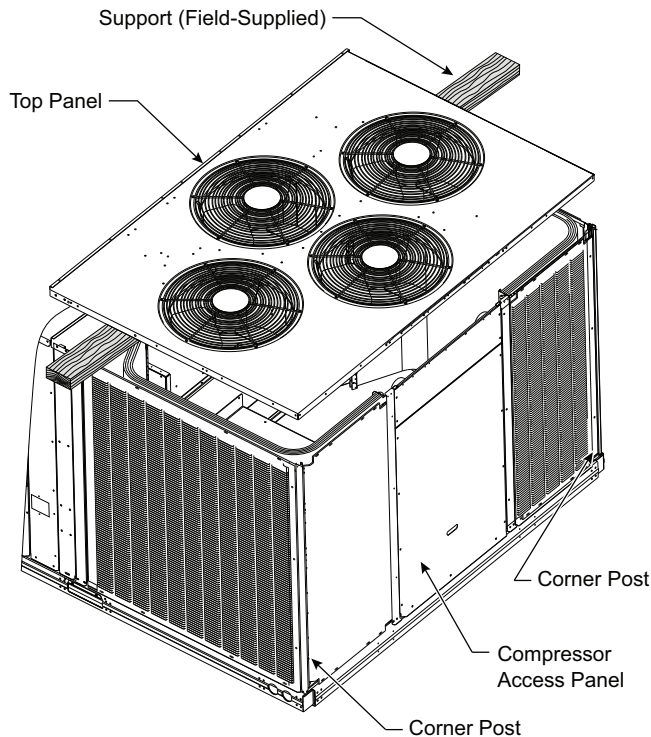

Fig. 21 — Top Panel Removal
3. Lift the top panel at the condenser fan end and support the top panel so it remains level while resting on the condenser fans as shown in Fig. 21.
4. Remove the compressor access panel to access the lower coil clips. The condenser coil corner post may also be removed. See Fig. 21.